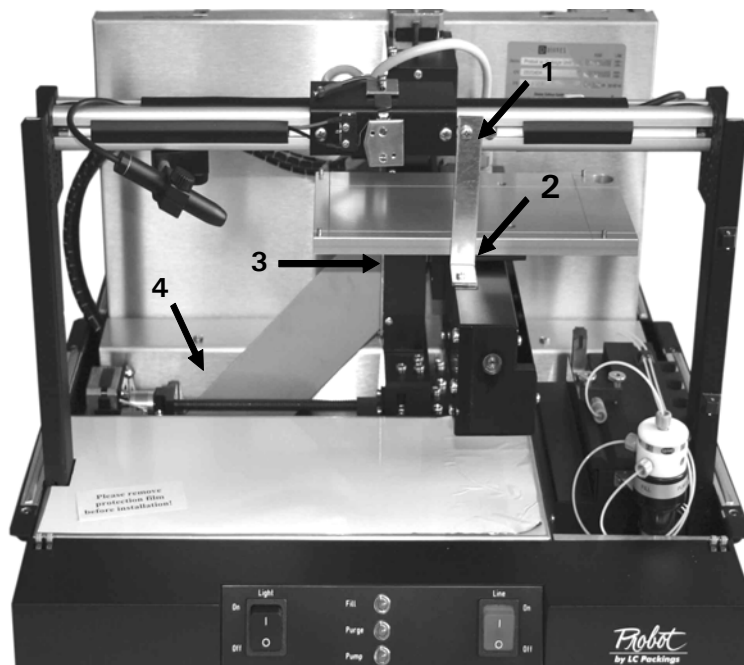

FIGURE 2-3 Removing the Safety Brackets - Location of the Screws
Two safety brackets (two pieces of metal) are used to secure the drive table as shown in FIGURE 2-3.
- c) Unscrew the four screws that hold the brackets in place (item 1-4; FIGURE 2-3).